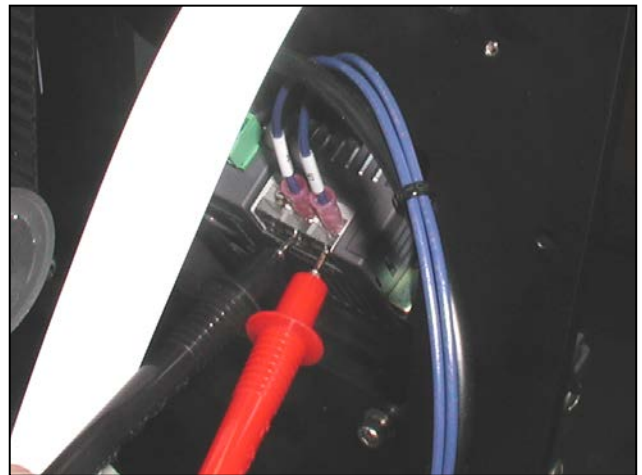

Figure 3-83. Measuring 24 VDC on Display
2. With a Digital Volt/Ohm Meter (DVOM) set to a range capable of measuring 24VDC, contact the red probe to the 92 connection and the black probe to the 91 connection (Figure 3-83).